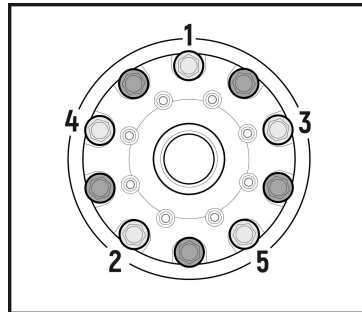
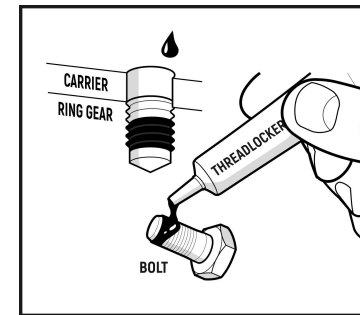
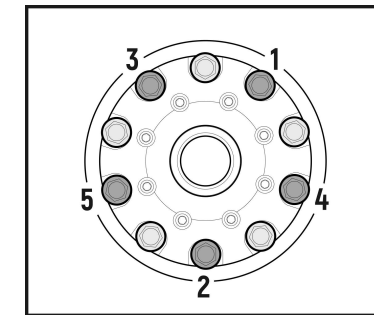

Fig. 18
Fig. 19
Fig. 20
**2.7** Install the remaining ring gear bolts in the sequence shown in (Fig. 18). Before installing each bolt, apply threadlocker to the ring gear threaded hole and to the bolt threads (Fig. 19). Tighten the bolts using a torque wrench to the torque specification provided by the vehicle manufacturer.
**2.8** Remove the five pre-tightened bolts installed in step 2.6. Reinstall them one at a time in the sequence shown in (Fig. 20). Before installing each bolt, apply threadlocker to the ring gear threaded hole and to the bolt threads (Fig. 19). Tighten the bolts using a torque wrench to the torque specification provided by the vehicle manufacturer.